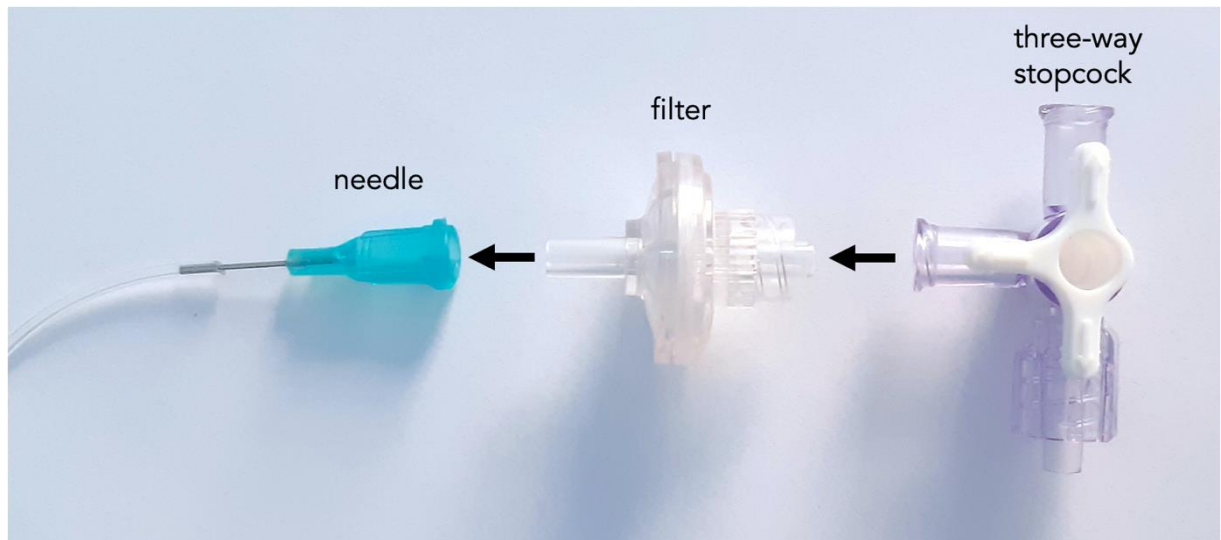

Figure 12 – Assembly of needle, filter and three-way stopcock.
- f) When all the tubes have been plugged, pair each needle with a sterile filter (provided within the mini-kit) and a three-way stopcock (provided within uBox tools kit) as shown in Figure 12.